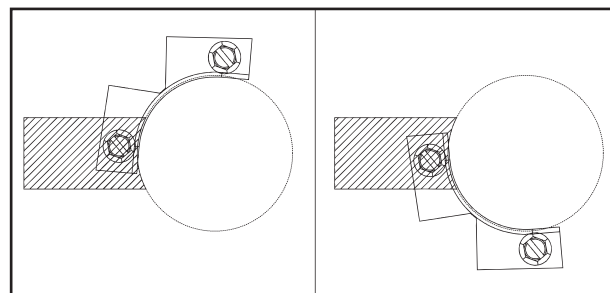

Figure 4
6. Optional Light Shield: The light shield may be mounted at virtually any angle. However, when deciding on a suitable location, the mounting screw head can not be in the shaded area. (See Figure 4)